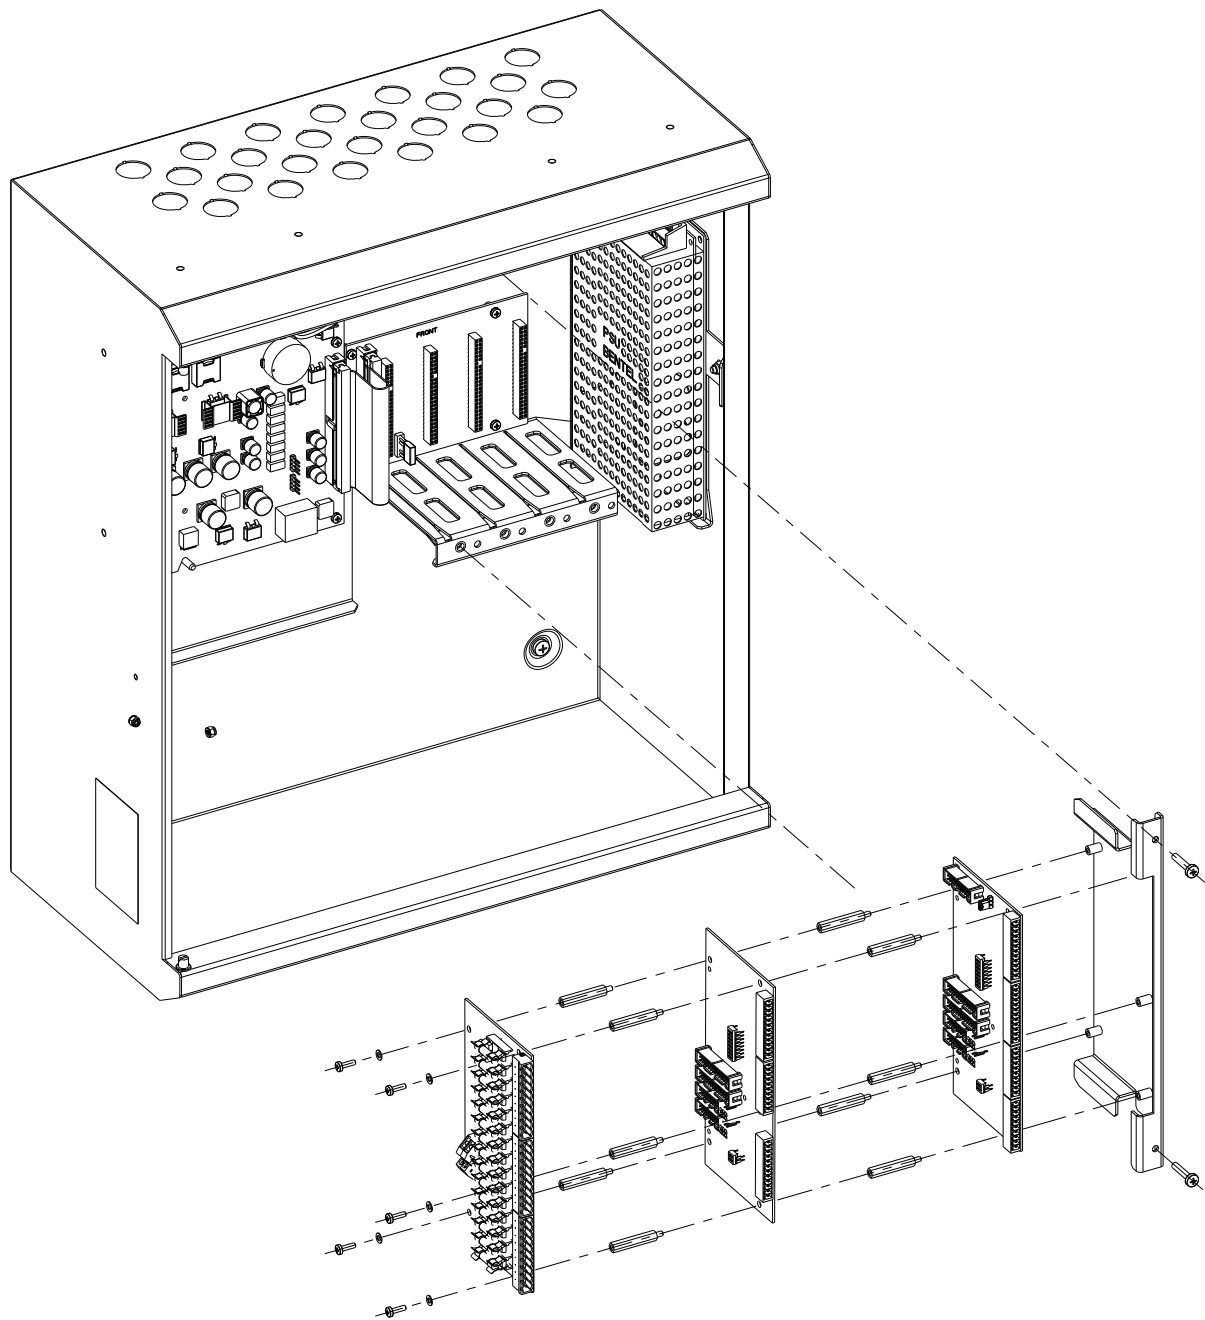

Fig. 33: FB800 and IOB800 - Fitting to Backplane Cage
- 1 Assemble the layers of units with the mounting bracket, as shown in Fig. 33. Use the layer positions you determined in the section "Decide on a Layer Order" on page 36. Use the provided stand-off pillars.
- 2 Fix the assembly into the slot card cage as shown in Fig. 33.